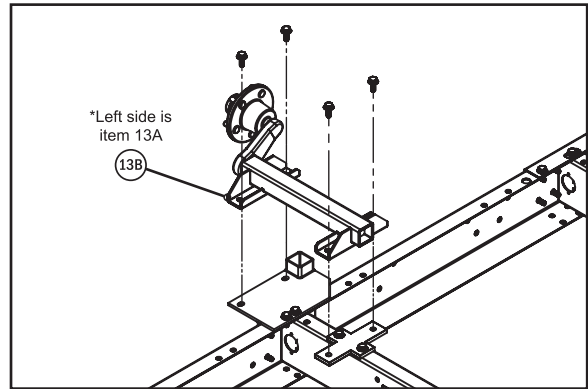

Fig. 8
Step 12: Install the Torsion Axle. Install the Torsion Axle (-Right #13B or Left #13A, when assembling the left side) as shown (Fig. 8) using four M10 x 30mm Bolts (#1) and M10 Nuts (#2)